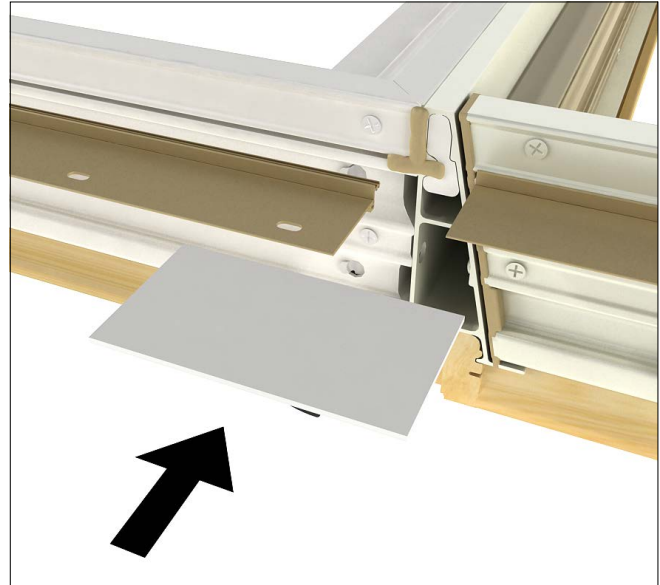

Figure 13
- Apply a third clamp and wood blocks to interior as needed. Make sure mullied units are flush and square at the sill and jamb liners. Fasten interior of mullied units with 1/2"x1" 16 gauge staples spaced every 4" (102).
- Apply silicone sealant at the mullion from the frame exterior edge to the drip cap/nailing fin kerf and across the kerf over the mulling pin as shown in illustration 6. Apply nailing fin connector at the jambs by removing the paper backing from the connector and pressing into place. See figure 13.